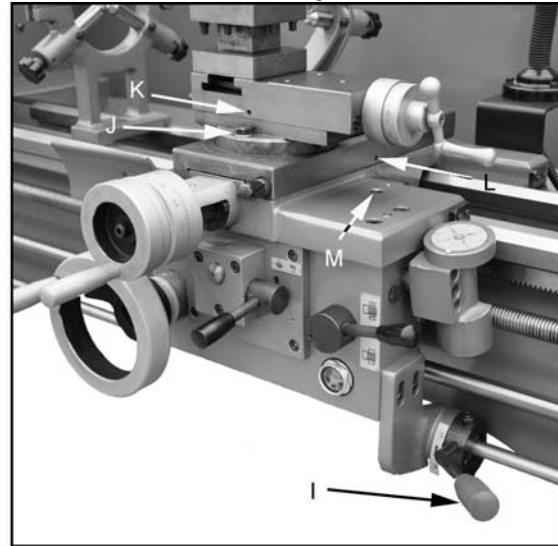

Figure 13
9. **Forward/Reverse Lever** (I, Fig. 13) - Pull lever up for clockwise spindle rotation (reverse). Push lever down for counter-clockwise spindle rotation (forward). Neutral
10. **Compound Rest Lock (J, Fig. 13)** - Turn hex nut clockwise to lock and counter-clockwise to unlock.
11. **Compound Slide Lock (K, Fig. 13)** - Turn set screw clockwise to tighten and counter-clockwise to loosen.
12. **Cross Slide Lock (L, Fig. 13)** - Turn set screw clockwise, and tighten to lock. Turn counter-clockwise and loosen to unlock. **Caution:** *Cross slide lock screw must be unlocked before engaging automatic feeds or damage to the lathe may occur.*
13. **Carriage Lock (M, Fig. 13)** - Turn hex socket cap screw clockwise and tighten to lock. Turn counterclockwise and loosen to unlock. **Caution:** *Carriage lock screw must be unlocked before engaging automatic feeds or damage to lathe may occur.*